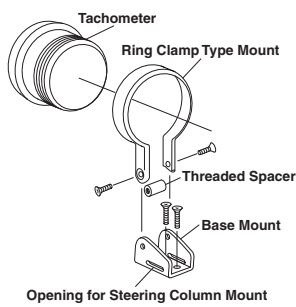

Figure 1
- Using the spacer and bolts provided, secure the tachometer and ring clamp type mount assembly to the base bracket. SEE FIGURE 1.